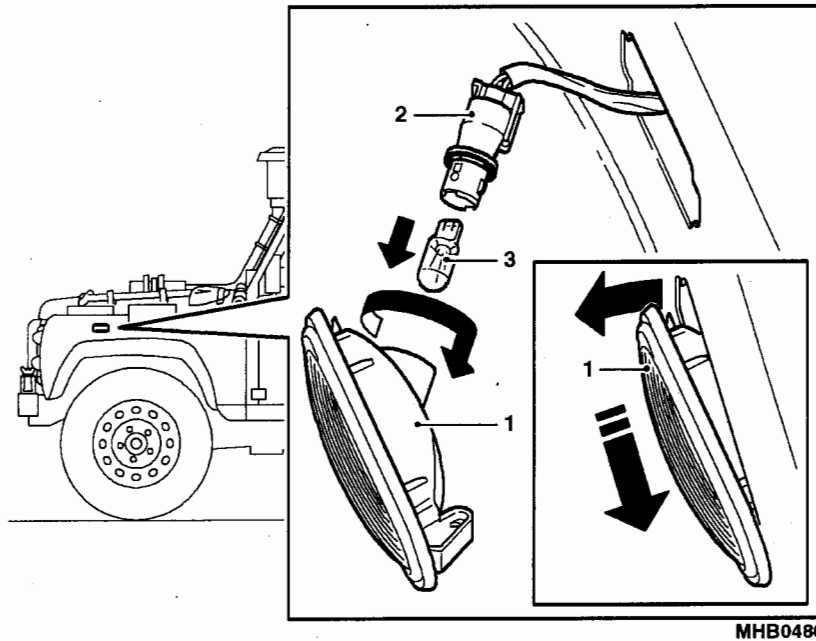

Fig 5 Side repeater lights
- 8.2 Push the lens (Fig 5 (1)) forward and ease outward to detach lens and bulb holder (2) from vehicle.